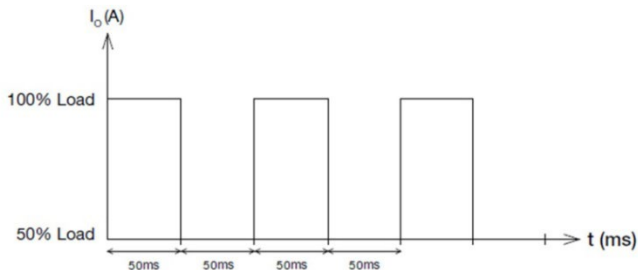

Fig. 5 Dynamic Load
1. Base plate mounting, M4 thread holes, maximum penetration 3.0 mm (0.12 inch) from outside face of chassis, maximum torque 9-10 kgf.cm (7.82-8.69 inch.lbs). (refer to Fig. 5)
2. Side mounting, M4 thread holes, maximum penetration 3.0 mm (0.12 inch) from outside face of chassis, maximum torque 9-10 kgf.cm (7.82-8.69 inch.lbs). (refer to Fig. 5)
- Ⓐ Base Mounting: Fig. 5 shows the mounting hole locations for power supply assembly onto a metal mounting surface.
- Use flexible cable (stranded or solid) of AWG No. 6. User should calculate and select the suitable wire specification (type/quantity/diameter) according to actual output current. The torque at the Connector shall not exceed 6-7kgf.cm (5.21-6.08 inch.lbs). The insulation stripping length should not exceed 0.275" or 7 mm. (Refer to Fig. 5).